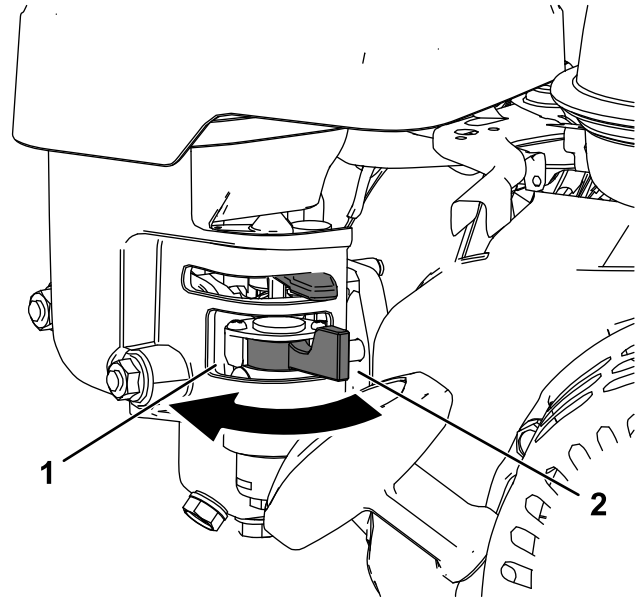

Figure 6
- To open the fuel valve, turn the fuel-shutoff valve handle toward the recoil starter handle (Figure 6).
- To shut the fuel valve, turn the fuel-shutoff valve handle away from the recoil starter handle (Figure 6).